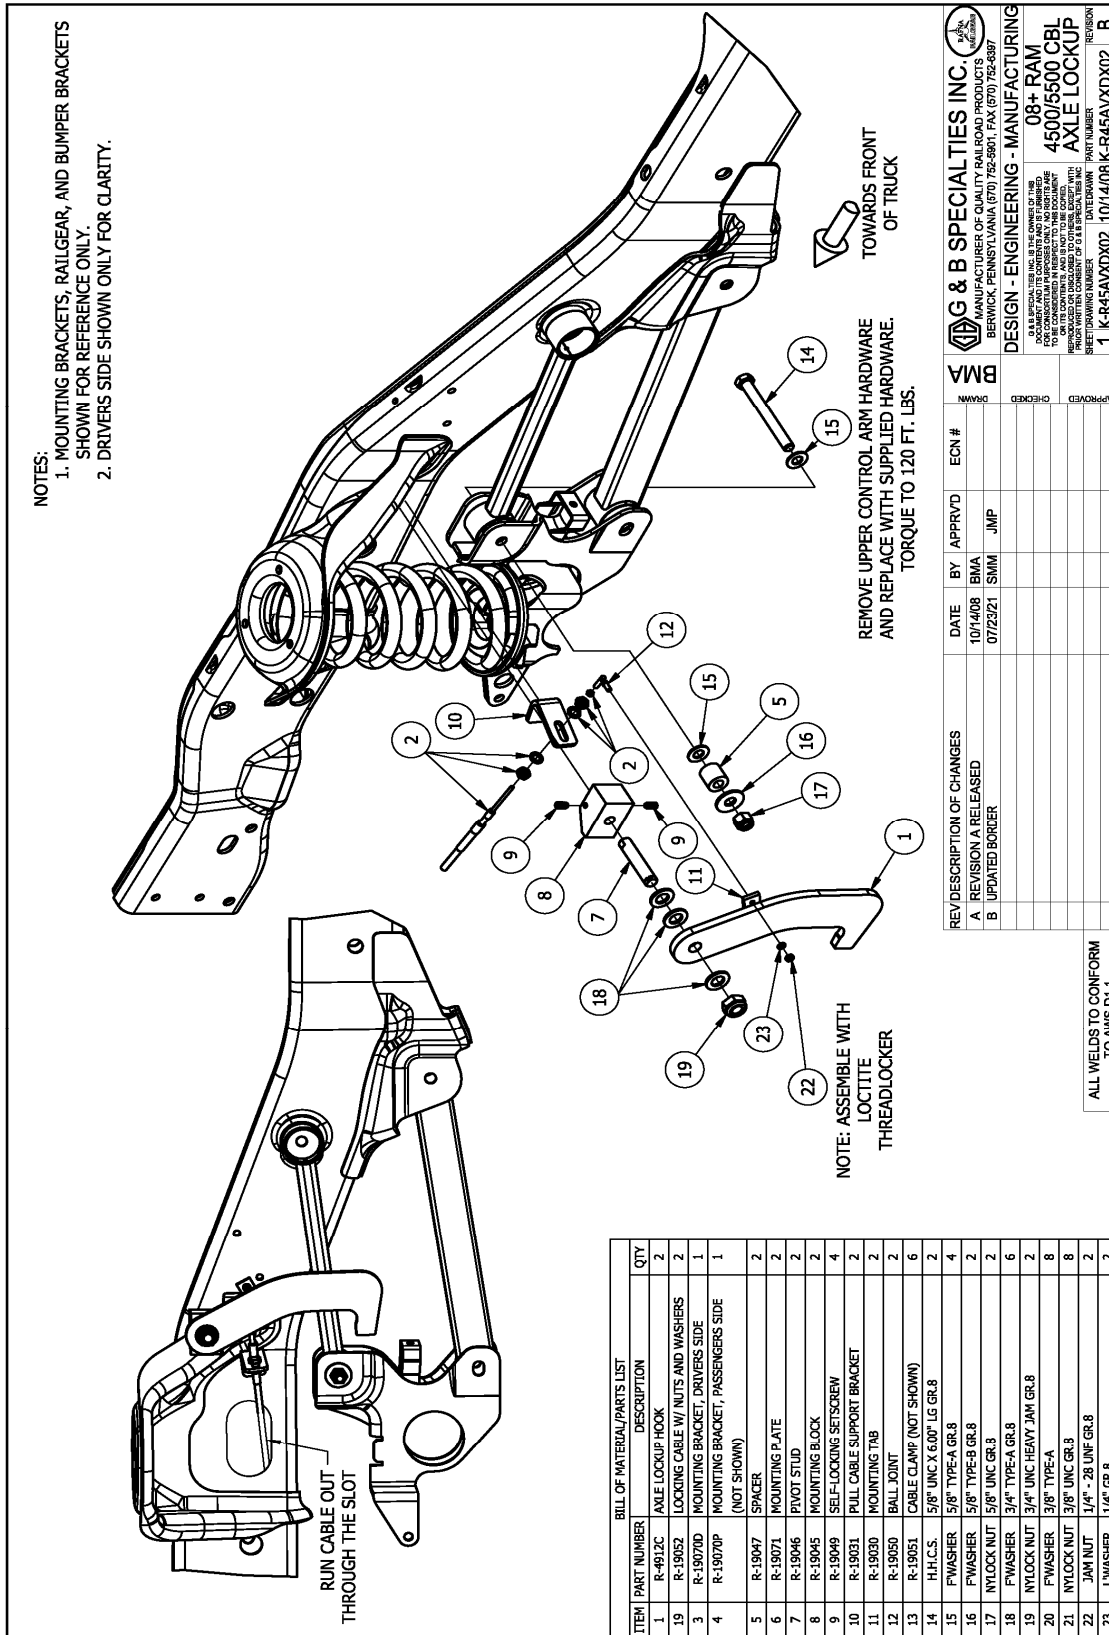

Figure 1
2. Remove the existing hardware that attaches the upper trailing arm to the front axle. (Figure 1)
3. Replace the removed hardware with one 5/8" x 6" long bolts, four type-a washers, two type-b washers, two spacers, and two nylock nuts as shown in Figure 1. Torque to 120 ft. lbs. as specified by Chrysler service departments.
6. Remove the hook and re-assemble with two or three 3/4" washers, and one heavy jam nylock nut as shown in Figure 1. Do not over tighten as the hook needs to swing freely by hand and will need to be removed later for welding.
9. Run the cable through the frame and out the slot at the shock tower as shown in Figures 1 & 2.
10. Fasten the cable to the pull cable support bracket as shown in Figure 1. Do not tighten the fasteners as adjustment will need to be done later.
11. Fasten the mounting tab to the ball joints using a 1/4" lock washer and jam nut as shown in Figure 1. Use Loctite Threadlocker when fastening.
12. With the hook engaged in the lock position, clamp the mounting tab to the hook as shown in Figure 1.